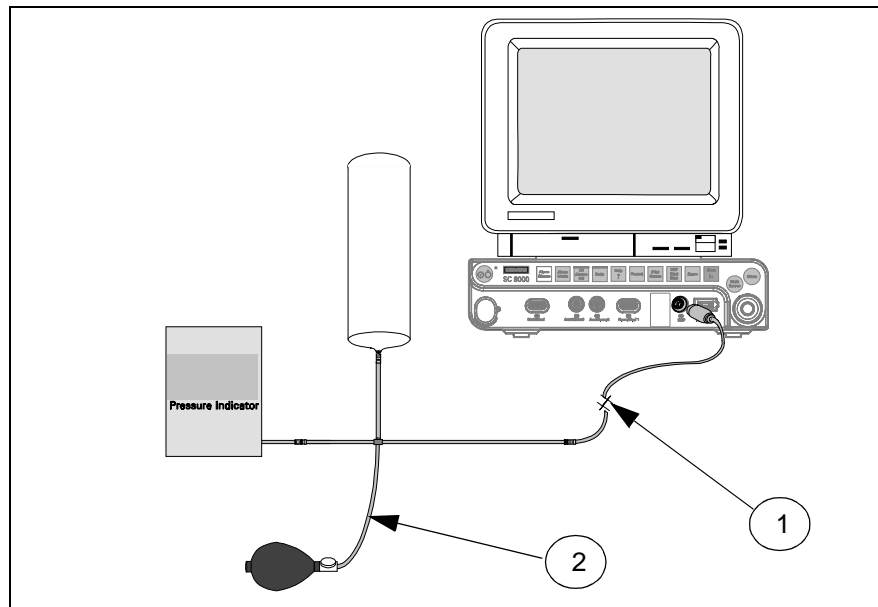

Figure 4-1 NBP Calibration Check / Calibration Test Setup
Set up the NBP Calibration assembly (Art. No. 28 77 855 EE54U) as illustrated in Figure 4-1. Assume that pneumatic leakage is within specifications before continuing to Section 10.2, Calibration Check.
- 3) Clamp pneumatic hose (with hemostat or clamp) between T-connector and monitor (① in Figure 4-1), and using pressure bulb, increase pressure to 250 ± 5 mmHg. Then clamp hose at inflation bulb (② in Figure 4-1), and let pressure stabilize for 1 minute. *Do NOT run pump.*